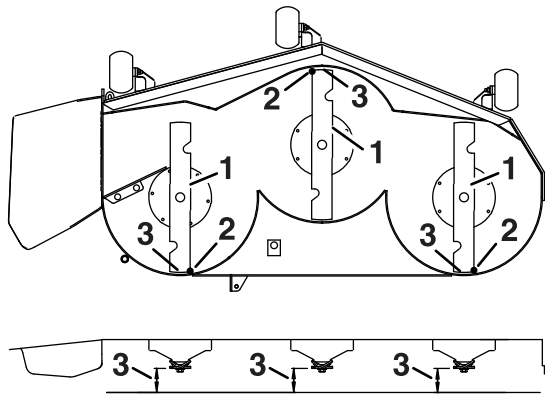

Figure 74
3. Carefully rotate the blades so they are facing front to rear (Figure 74).
4. Measure from the tip of the front blade to the flat surface and the tip of the rear blade to the flat surface (Figure 74).